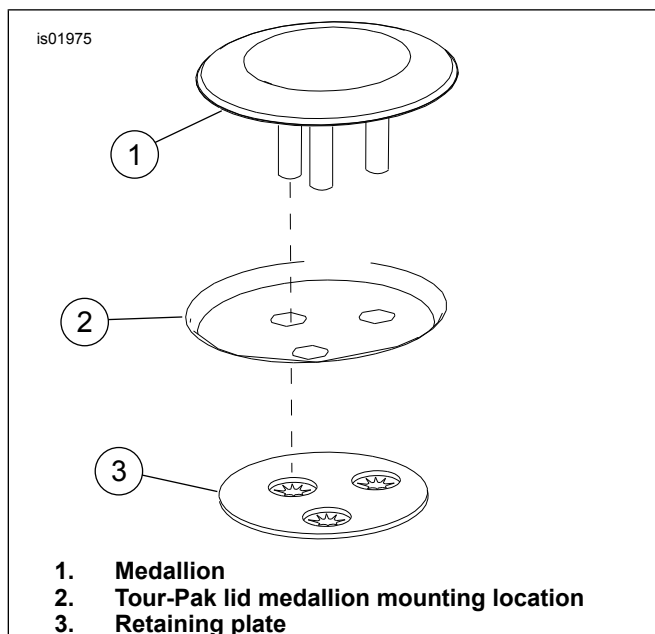

Figure 3. Medallion Installation
12. See Figure 3. Install medallion (1) to the Tour-Pak lid mounting location (2) and secure with retaining plate (3). Hold the medallion firmly in place against the Tour-Pak lid, install the retaining plate over the medallion's prongs. Press the retaining plate firmly against the Tour-Pak lid to hold the medallion tightly in place.